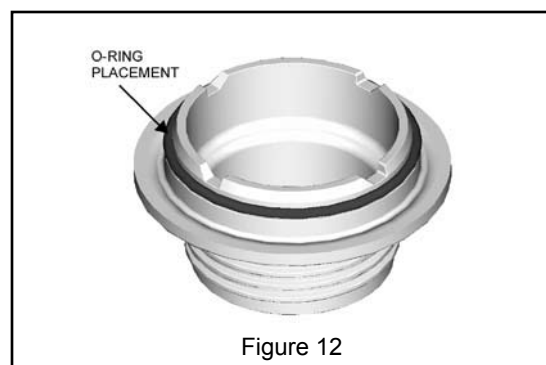

Figure 12
- The valve adapter o-ring sits on the first step on the adapter. See Figure 12.